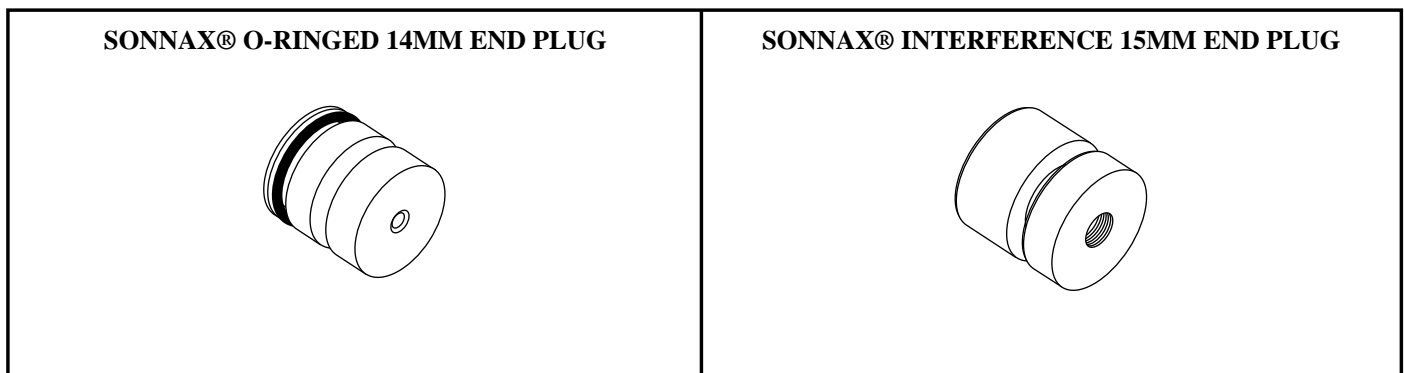

Figure 4
2. The use of the Sonnax® o-ringed interference fit bore plugs, Figure 4, or using a tubing cutter to expand the bore plug so it fits tightly into the valve bore.